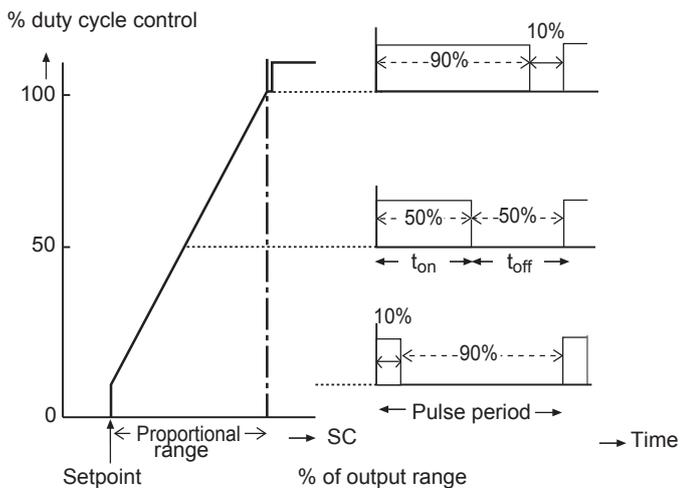

Fig. 5.4 Duty cycle control
- \*PER. The time period of the overall pulse control cycle (one ON and one OFF period). See fig 5.4.